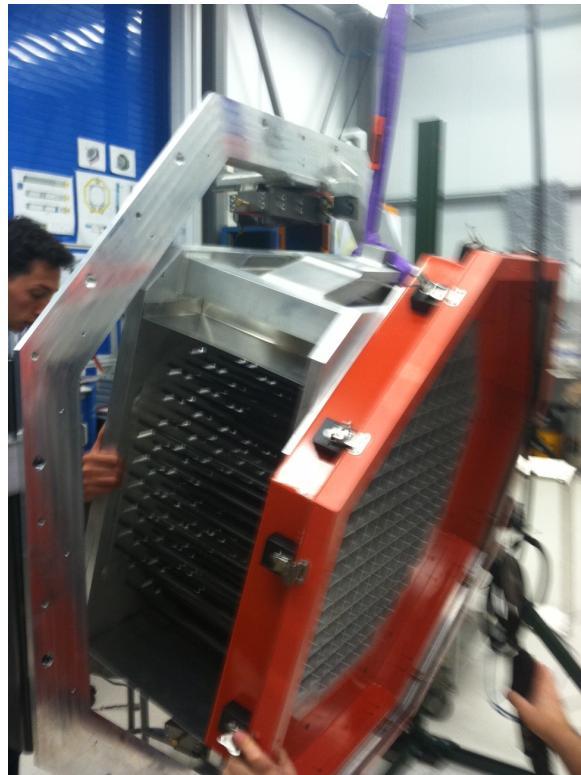

Figure 6
5. Pop top ball joint out. Now the top tilts forward. See Figure 6.